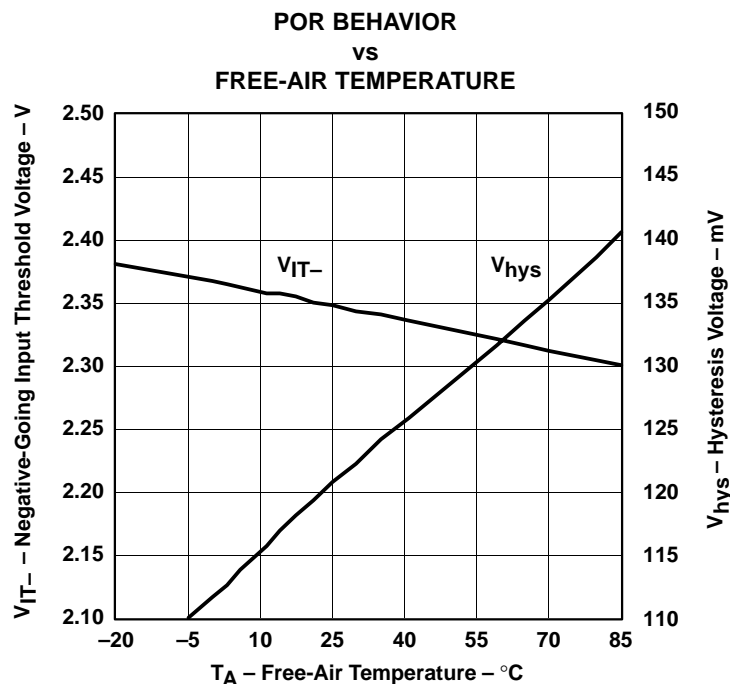

Figure 1
**Power-On Reset (see Figure 1)**